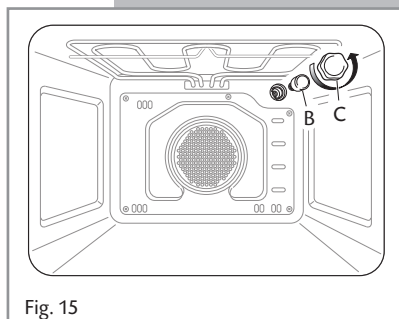

Fig. 15
- Unscrew the protective cover C (fig. 15);